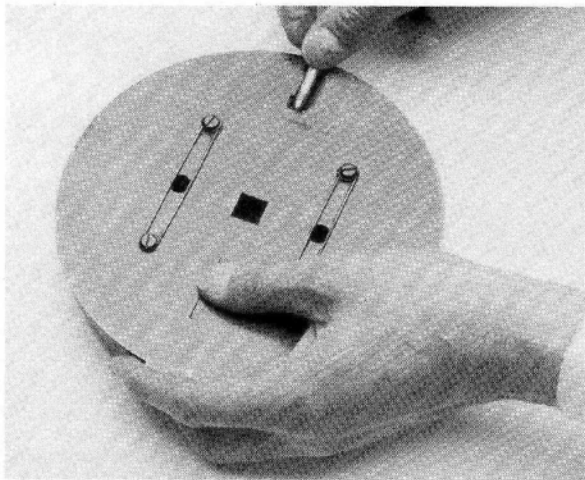

Figure 13
- c. Lay the first cartridge in the slot on the base of the magazine (figure 13). Press the lock of the magazine and slowly rotate the magazine base. The cartridge will go into the magazine without force of any kind. Repeat this process for 59 rounds.